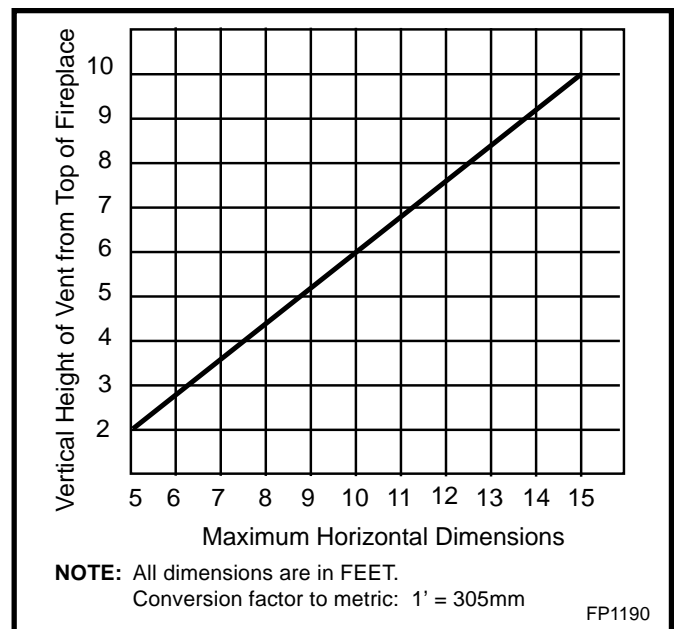

Fig. 39 Gravity vent diagram.
Installation of the **DVRT43** fireplace provides an opportunity to heat either rooms on an upper level or adjacent rooms on the same level without the use of a blower. However, with the internal blower installed, there will be some increase in warm air movement to rooms serviced by the gravity duct. (Fig. 39 and Fig. 40)
1. Plan the gravity duct run first. Use the following graph (Fig. 39) to ensure that the installation meets the recommendations. There is a maximum number of three (3) elbows in a run, however, the run must never go in a downward direction, as this can trap heat in the gravity vent system. Be aware when designing the ducting system that elbows will restrict airflow. Minimize the use of elbows in any installation.